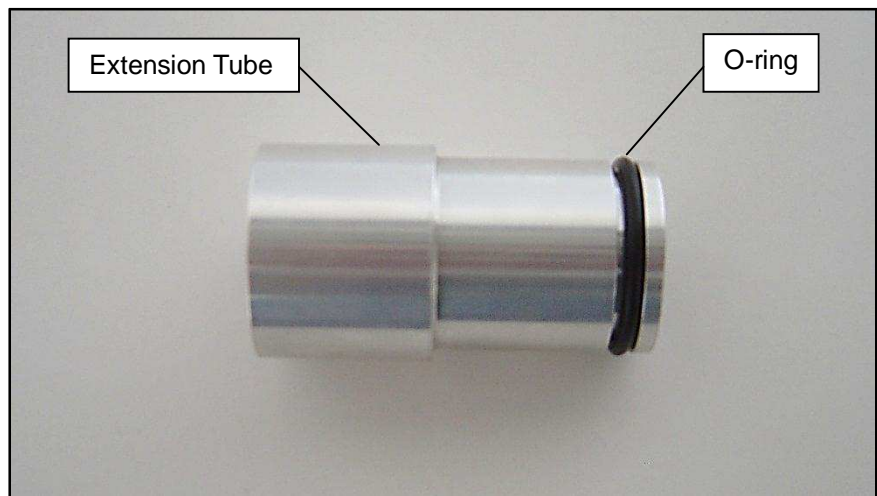
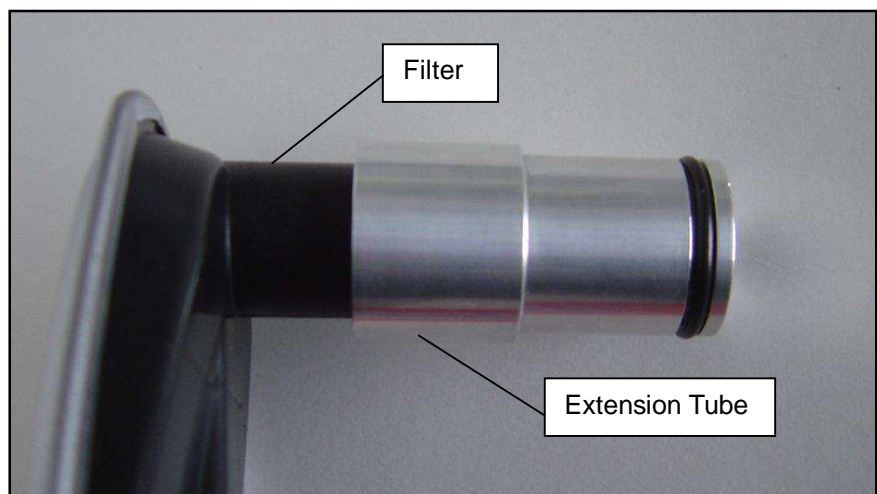

Figure 1
Figure 2
STEP 7. Install the supplied o-ring on the extension tube provided in the kit (See Figure 1). B&M recommends that the transmission filter be changed at this time. Lubricate the seal on the transmission filter (MOPAR p/n: 52108325AA) and the o-ring with new transmission fluid. Place the extension tube on the transmission filter (See Figure 2).